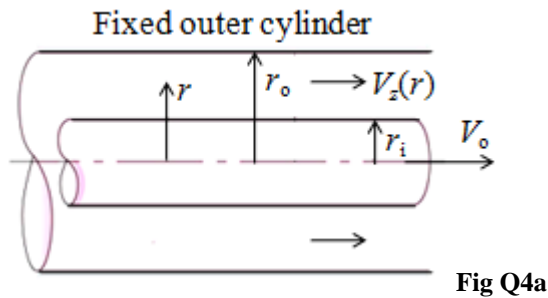

Fig Q4a
- Q4. Consider steady, incompressible, fully developed laminar flow of a Newtonian fluid in the annulus (See Fig Q4a) between two concentric pipes. Assume that the pressure is constant everywhere. The inner pipe is moving in axial direction (z -direction) with a steady velocity V_o to the right, and the outer pipe is stationary. [10M]